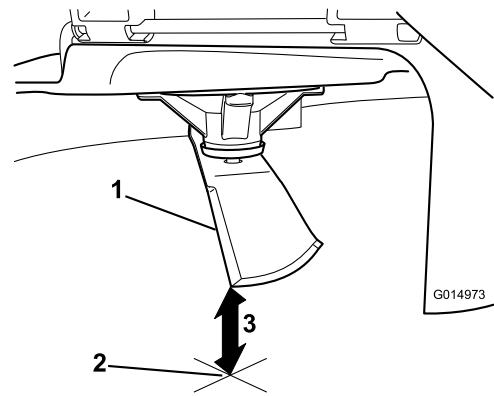

Figure 66
3. Measure from the tip of the blade to the flat surface (Figure 66).